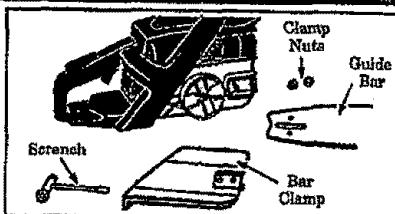

Figure 6
1. Remove the following parts as shown in Figure 6, using the Scrench provided with the unit.